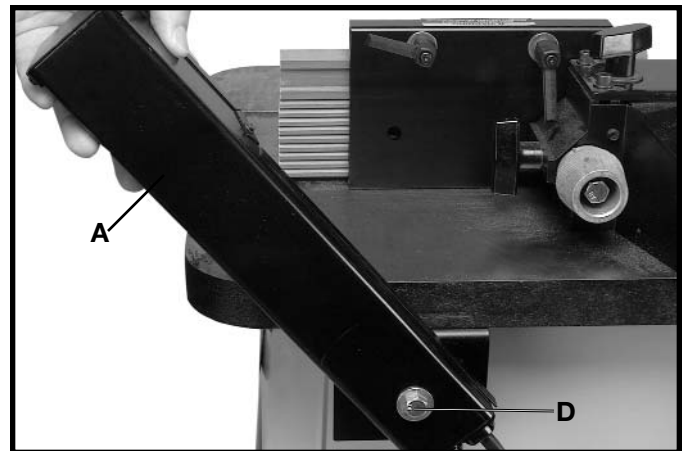

Fig. 23
To change position of the switch arm, loosen screw (D) Fig. 23, and rotate arm (A) to the vertical or horizontal position. Then tighten screw (D).